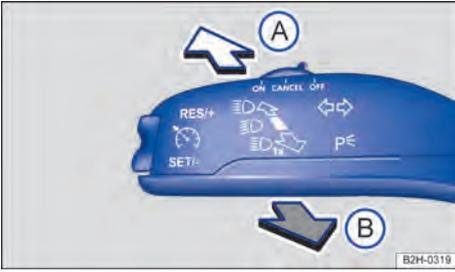

Fig. 83 On the left-hand side of the steering column: Turn signal and main beam lever
2. Push the turn signal and main beam lever forwards from the centre position → Fig. 83.
1. Pull the turn signal and main beam lever to the rear from the centre position → Fig. 83.
1. Pull the turn signal and main beam lever to the rear from the centre position and hold in this position → Fig. 83.